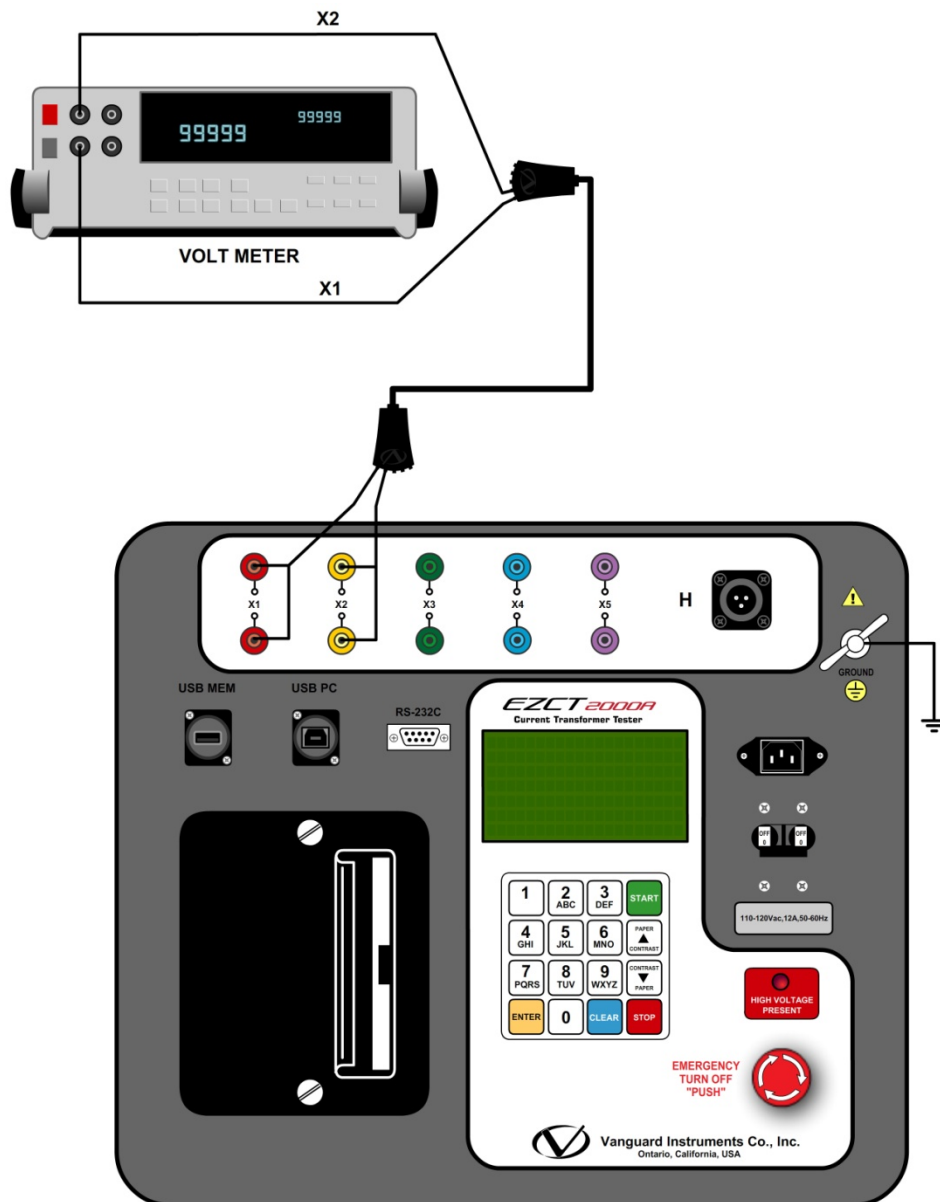

Figure 17. EZCT-2000A V_x Verification Test Connections
- Connect the X cables to an RMS volt meter as shown in Figure 17.